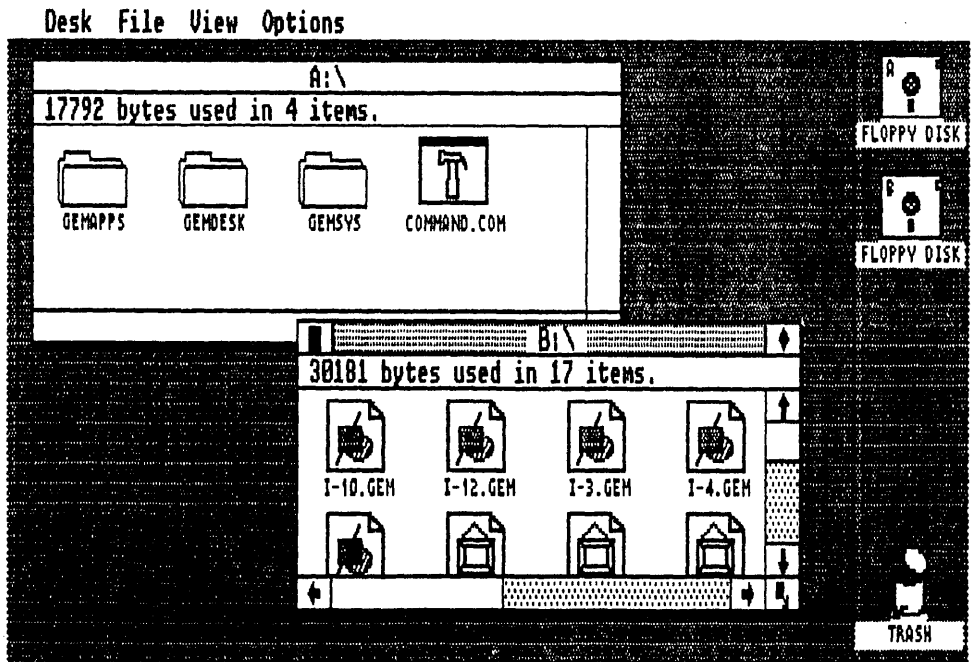

Fig. 1-2. GEM Desktop with two active floppy disk drives.
6. The GEM Desktop is now ready for use (see Fig. 1-2).